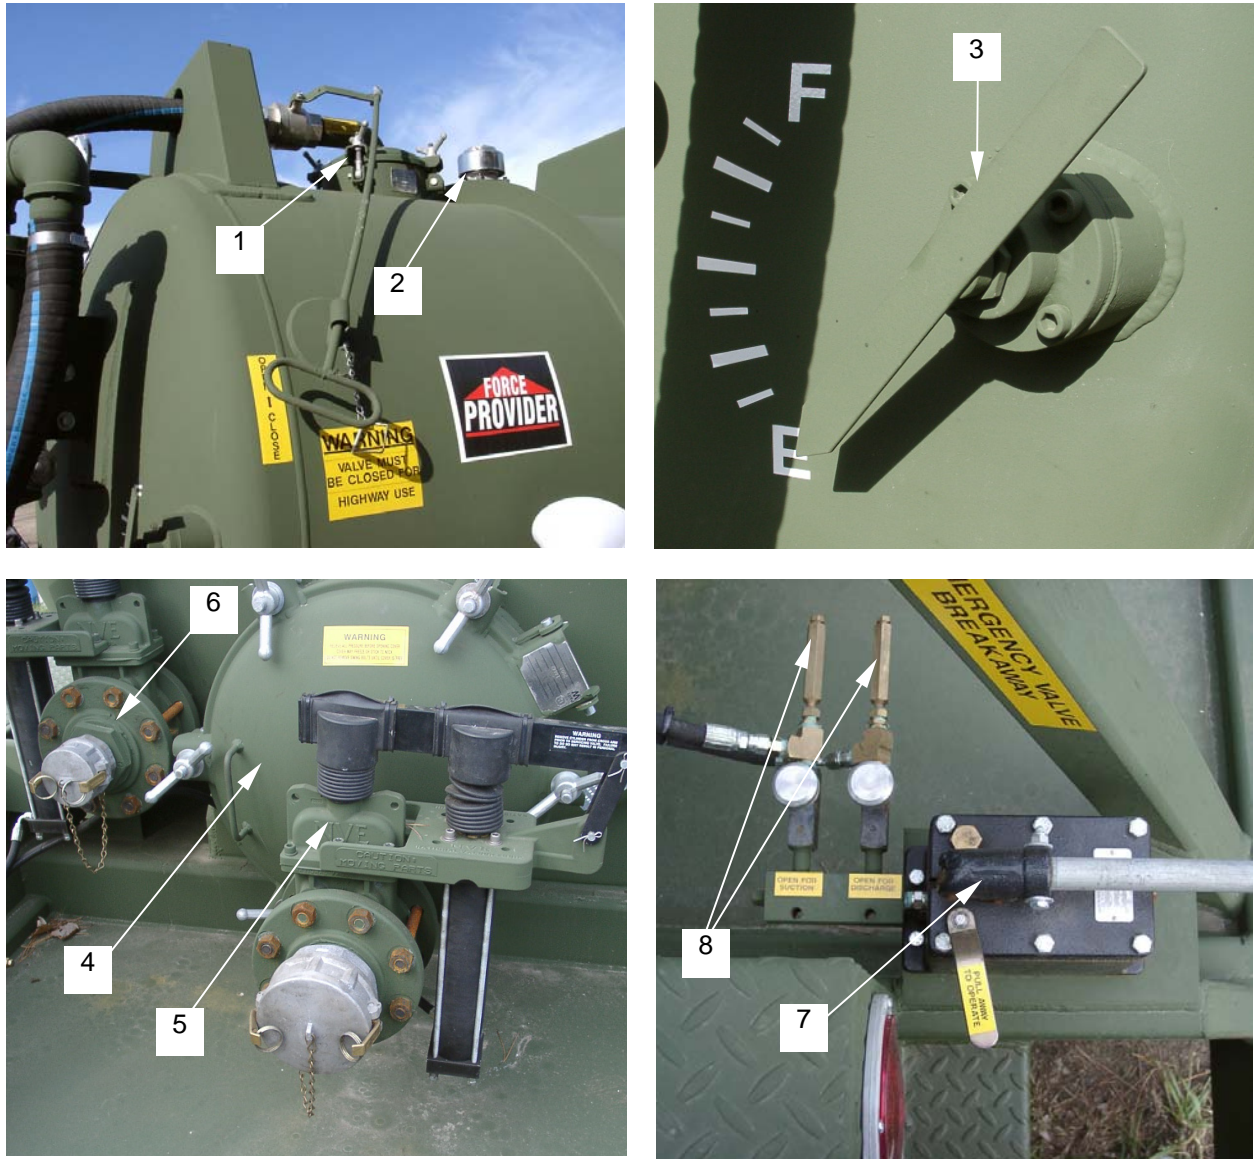

Figure 1. Wastewater Tank
The wastewater tank has a maximum capacity of 1000-gallons. It incorporates a float valve mechanism (1) that will shut off the vacuum system when the tank is full. It also incorporates a safety relief valve (2) that will relieve internal tank pressure when it reaches 30 PSI. An internally mounted float indicates the level of liquid in the tank on an externally mounted indicator/scale (3). A manway assembly (4) provides access into the tank interior. A 4-inch hydraulically operated drain valve (5) is mounted onto the manway. A 2½-inch hydraulically operated intake valve (6) is welded directly onto the tank. A manual hydraulic pump (7) mounted onto the rear platform is used to operate the intake and drain valves. Separate fusible frangible links (8) provide for emergency shutoff of the hydraulic system to either the intake or drain valve, or both, closing the valve(s). See Figure 1.